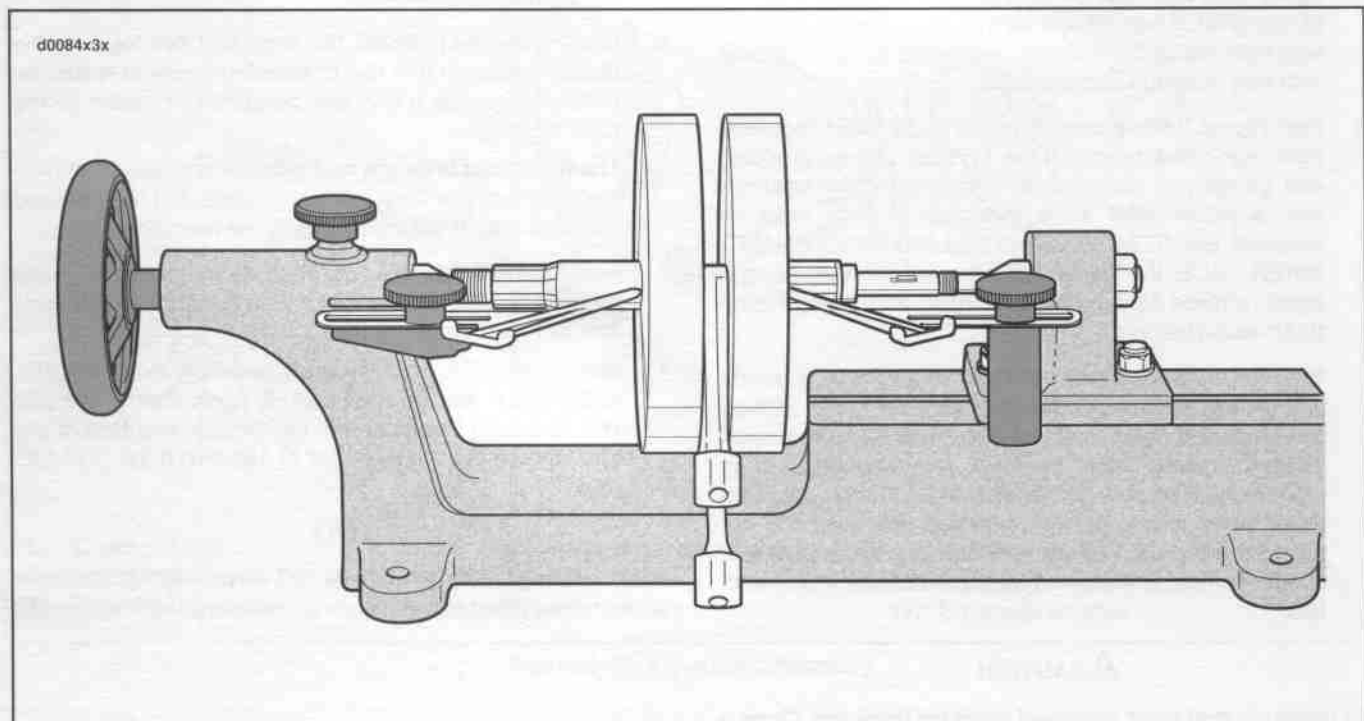

Figure 3-73. Flywheels on Truing Stand
1. See Figure 3-73. Install flywheel assembly in FLYWHEEL TRUING STAND, Part No. HD-96650-80. Tighten, then back off, adjusting so centers are snug but wheels rotate under weight of rods.